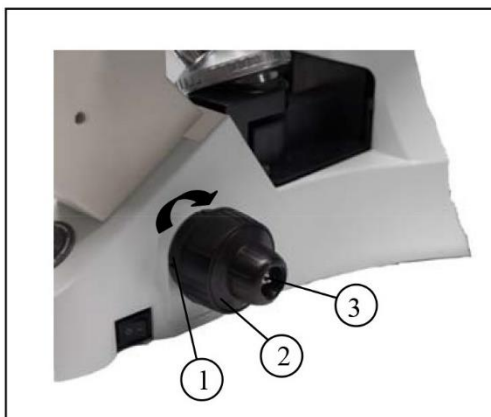

Figure 17
3.1.3. Adjusting the tension adjustment collar (Figure 17)
- ❖ **The tight tension of the coarse focus knob ② had already adjusted before leaving factory.**
If the nosepiece dropped automatically, or the specimen defocused soon even you focus with the fine focus knob ③. It means the coarse focus knob is too loose, you should screw it down at the direction shown by the arrowhead in the figure 17.